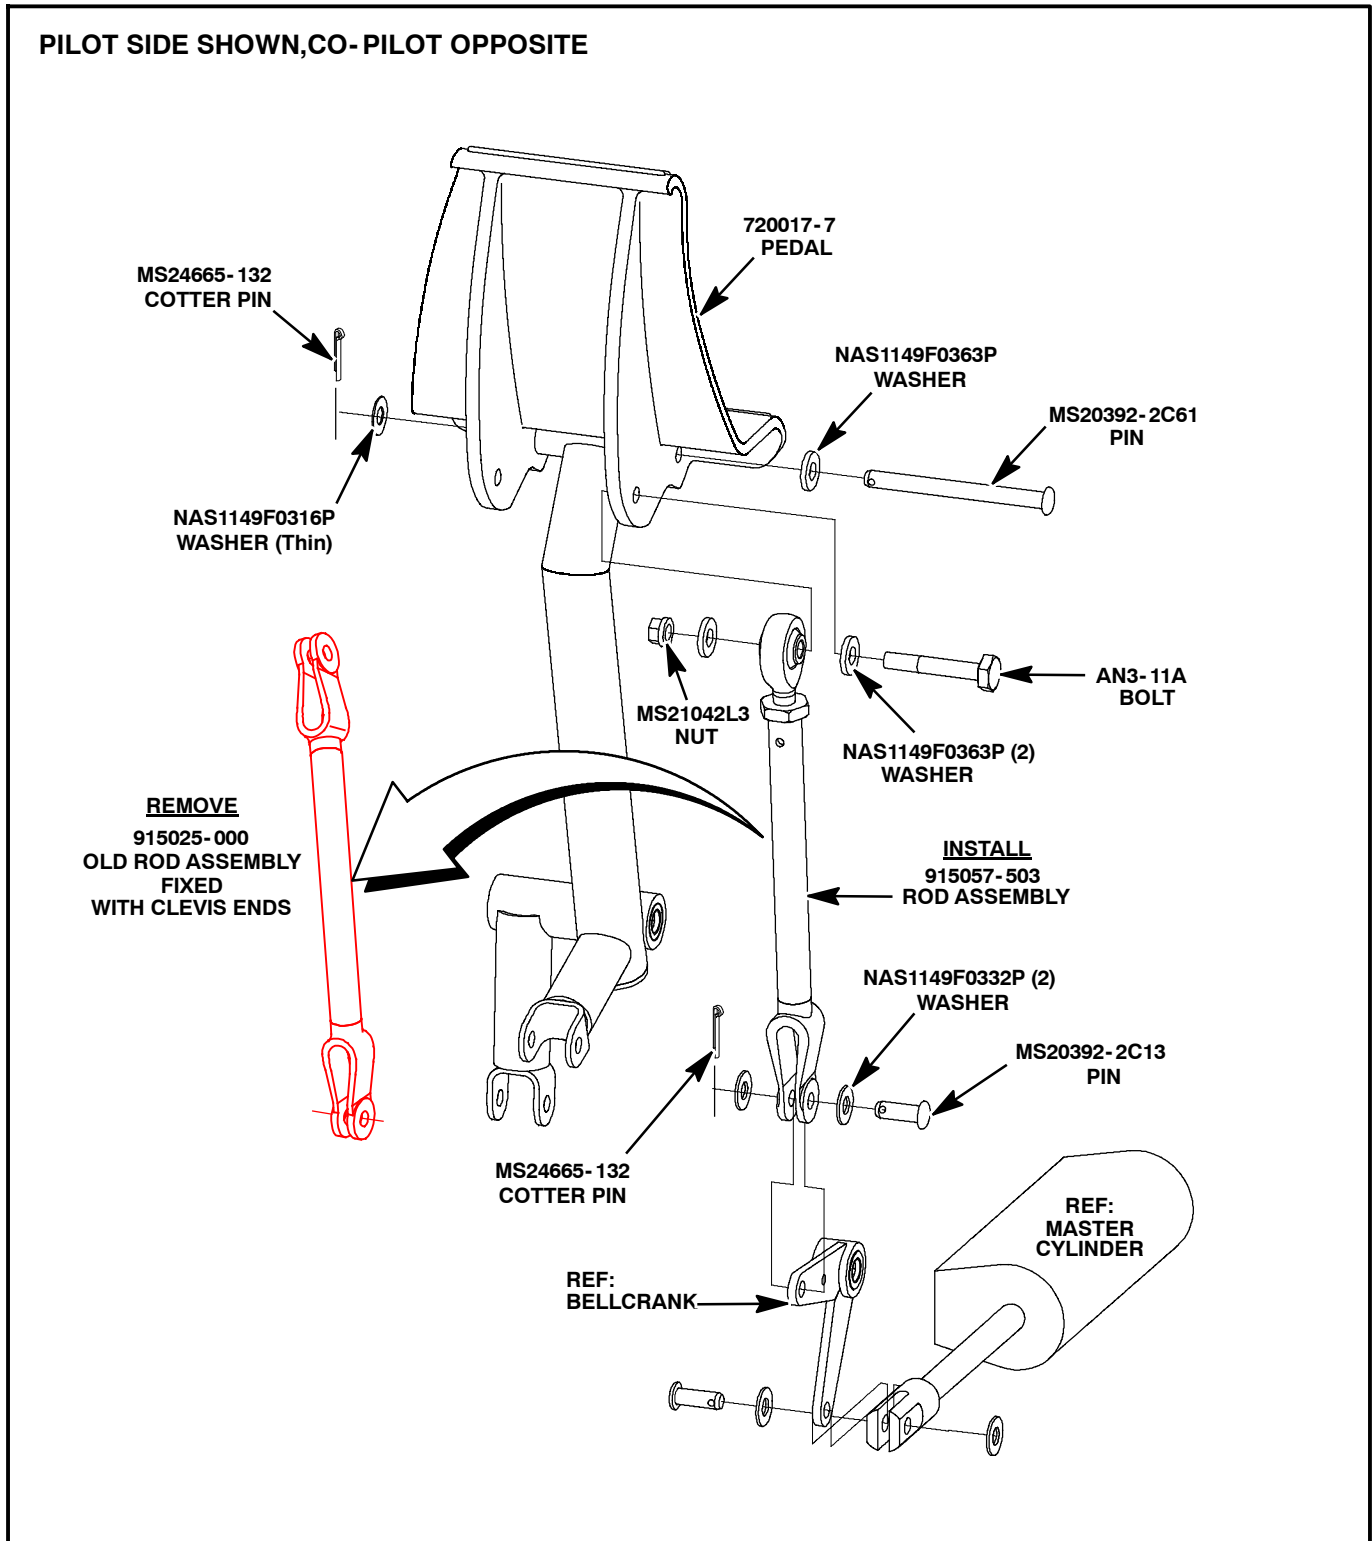

Figure SBM20-334-1 - REMOVING AND INSTALLING RUDDER/BRAKE PEDAL ROD
- 1.4. Disconnect and remove both RH & LH 915025-000 rod assemblies at the pedal and at the bellcrank, remove from aircraft and discard, as shown in Figure SBM20-334-1.
- a. From Pedal side, remove MS20392-2C61 PIN, NAS1149F0363P Washers (2) and MS24665-132 Cotter Pin, discard and use new upon installation.
- 1.5. Install both RH & LH 915057-503 rod assemblies as shown in Figure SBM20-334-1.
- b. From Pedal side, install MS20392-2C61 Pin, NAS1149F0363P, NAS1149F0316P (Thin) Washer and MS24665-132 Cotter Pin in front holes as shown in Figure SBM20-334-1.
Fill out compliance card and send by MAIL or FAX to Mooney International Corporation as indicated on the attached Compliance Card. (See Figure SBM20-334-1)